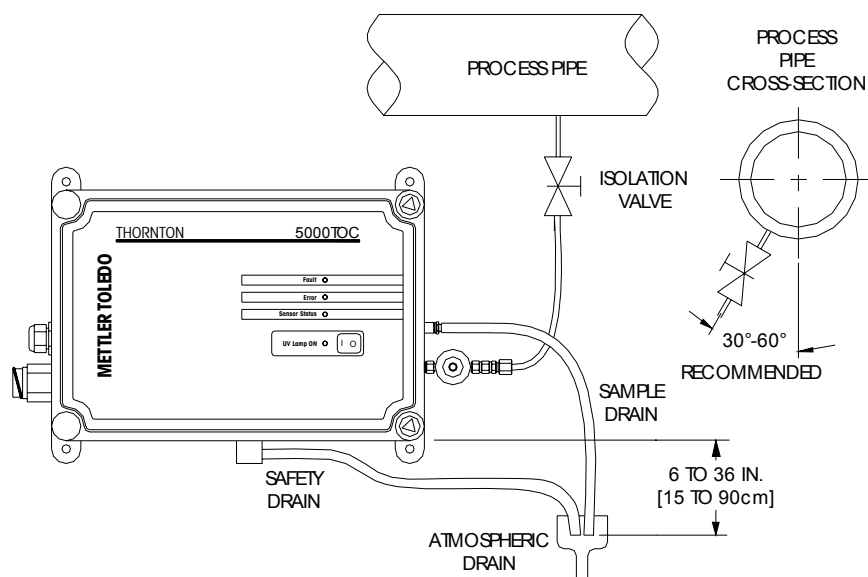

FIGURE 2
- Run tube to atmospheric drain located close to the sensor. See figure 2, for dimensional detail of drain location. **Take note of the 6 to 36" drain requirement.**
Important! Polyurethane sample outlet tubing must be fed to a nearby standpipe or drain sump to create an air gap and prevent siphoning. Installation must adhere to the dimensions shown in Figure 2 for proper sensor operation.
- Run tube to atmospheric drain located close to the sensor. See Figure 2, for dimensional detail of drain location.